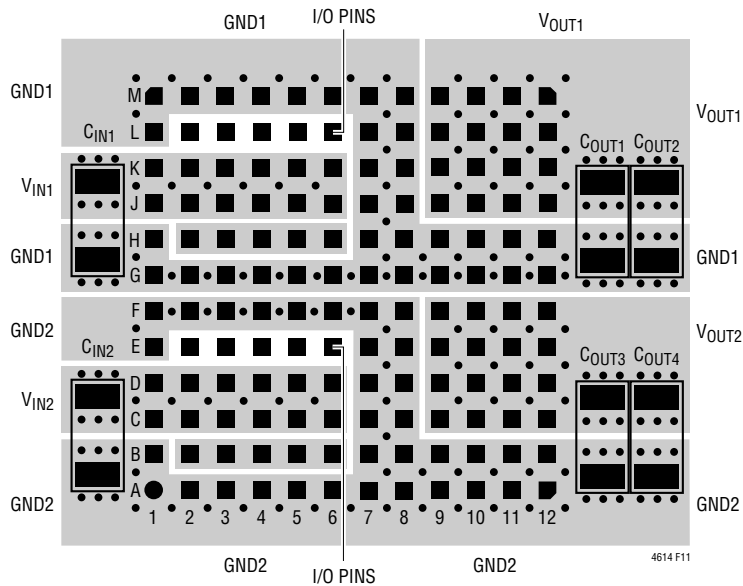

Figure 11. Recommended PCB Layout
In the above equation, $\eta\%$ is the estimated efficiency of the power module. The bulk capacitor can be a switcher-rated aluminum electrolytic OS-CON or polymer capacitor. If a low inductance plane is used to power the device, then no input capacitance is required. The internal 4.7 μ F ceramics on each channel input are typically rated for 1A of RMS ripple current up to 85°C operation. The worst-case ripple current for the 4A maximum current is 2A or less. An additional 10 μ F or 22 μ F local ceramic capacitor can be used to supplement the internal capacitor with an additional 1A to 2A ripple current rating. See Figure 11 for recommended PCB layout.
The LTM4614 switchers are designed for low output voltage ripple on each channel. The bulk output capacitors are chosen with low enough effective series resistance (ESR) to meet the output voltage ripple and transient requirements. The output capacitors can be low ESR tantalum capacitors, low ESR polymer capacitors or ceramic capacitors. The typical output capacitance range is 66 μ F to 100 μ F. Additional output filtering may be required by the system designer if further reduction of output ripple or dynamic transient spikes is required. Table 4 shows a matrix of different output voltages and output capacitors to minimize the voltage droop and overshoot during a 2A/ μ s transient. The table optimizes total equivalent ESR and total bulk capacitance to maximize transient performance. See Figure 11 for recommended PCB layout.
- Figure 11 gives a good example of the recommended layout.